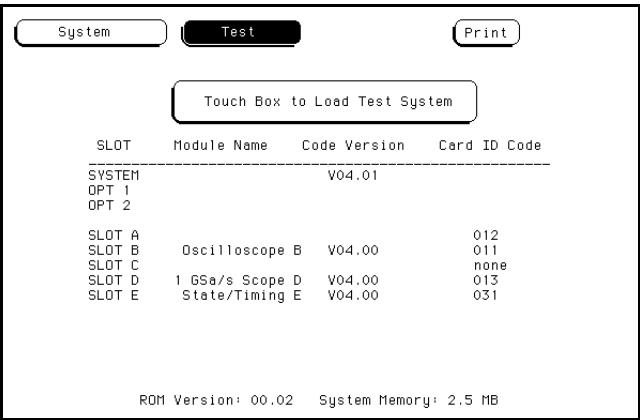

Figure 6-3. Load Test System Screen
- 4. Touch the box labeled **Touch box to Load Test System**. See figure 6-3.